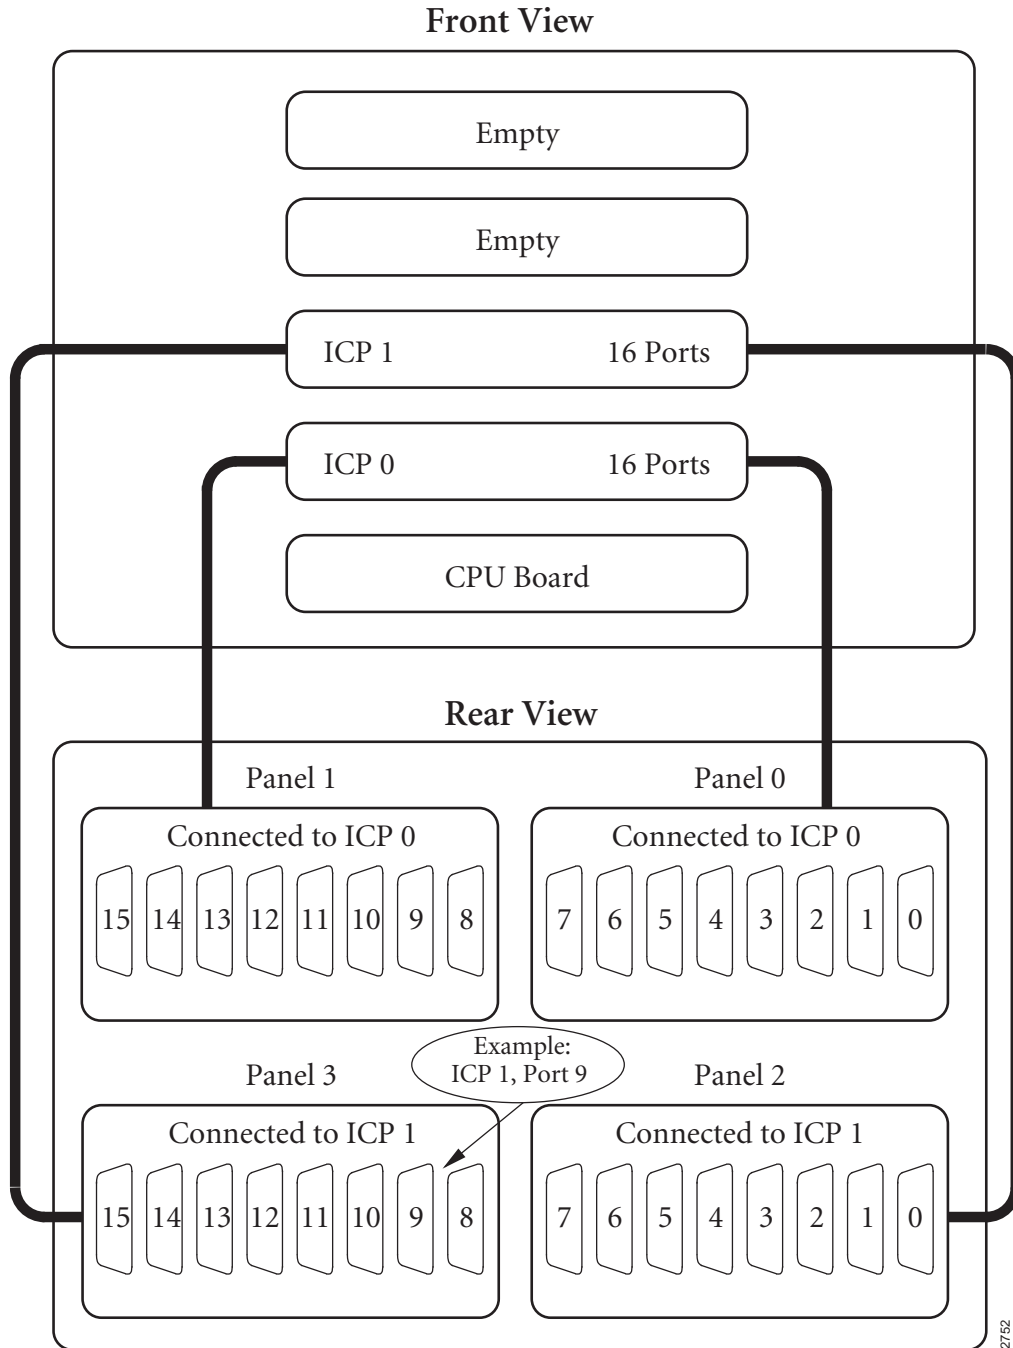

Figure 4–10: FW4000 Port Numbering: 16-port ICPs, 8-port WAN Panels
- ICPs are numbered as shown in Figure 4–12 on page 72. ICP 0 is normally the bottom ICP directly above the CPU board. If there are fewer than four ICPs, the empty slots are at the top.